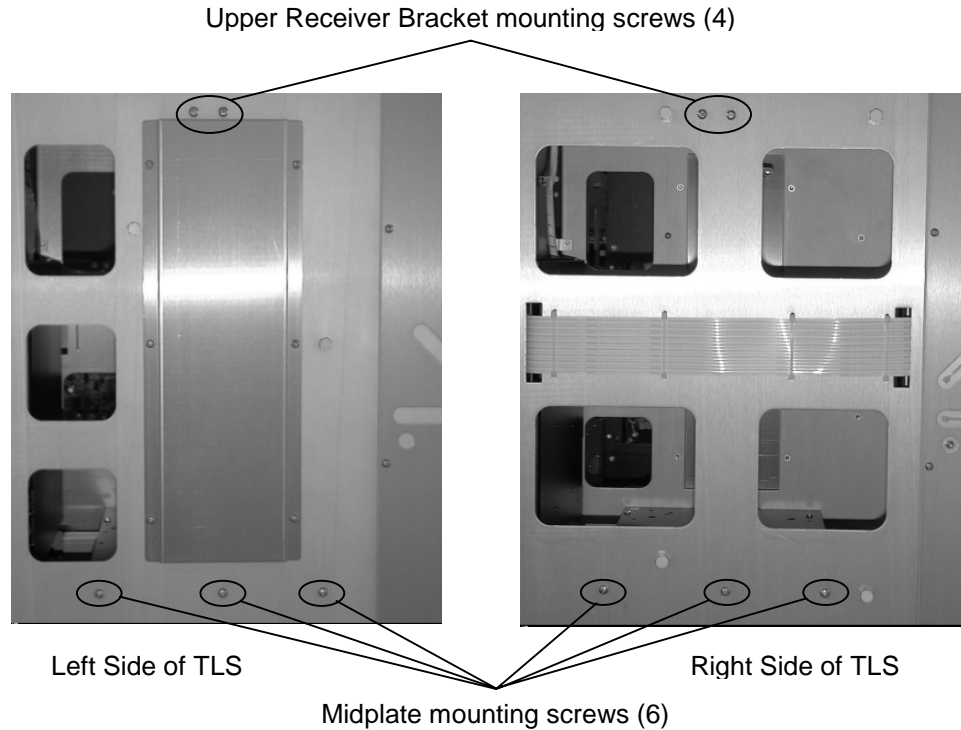

Figure 9-3 Upper Receiver Bracket mounting screws
6. From the left and right side of the TLS remove the four Upper Receiver Bracket mounting screws, then remove the Upper Receiver Bracket (Figure 9-3).
7. From the left and right side of the TLS remove the six Midplate mounting screws (Figure 9-3).
6. From the right and left sides of the TLS, use a Phillips screwdriver to install the six Midplate screws that were removed earlier (Figure 9-3).